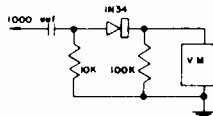

Figure 3. DETECTOR NETWORK
5. With 4.5 MC input signal applied as in steps 2, 3 and 4, connect a detector network to the picture tube cathode lead and connect the meter across it. Refer to Figure 3.